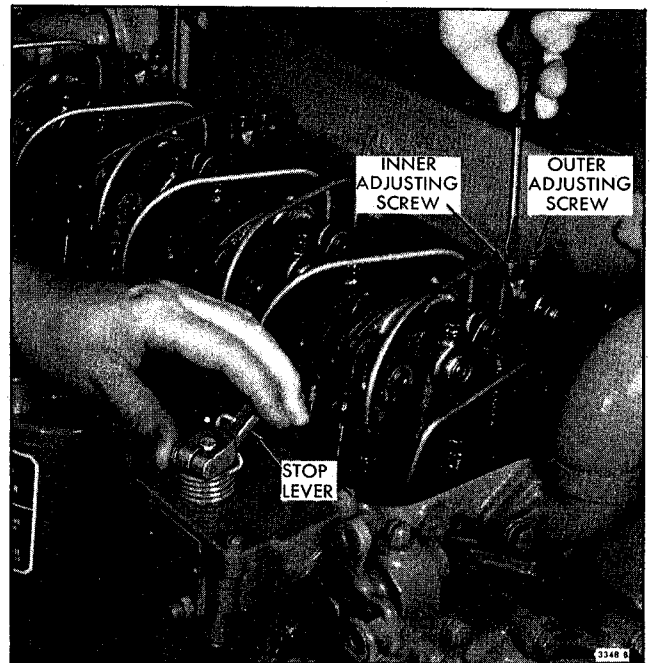

Fig. 10 - Positioning the Rear Injector Rack Control Lever
3. Loosen all of the inner and outer injector rack control lever adjusting screws (Fig. 10). Be sure all of the injector rack control levers are free on the injector control tube.